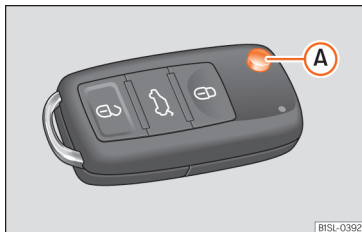

Fig. 97 Remote control key
When the button is pressed » Fig. 97 A, the key shaft is released and unfolds.
- If the buttons of the vehicle key are pressed »» Fig. 97 or one of the central locking buttons »» page 94 is pressed repeatedly in quick succession, the central locking briefly disconnects as protection against overloading. The vehicle is then unlocked. Lock it if necessary.